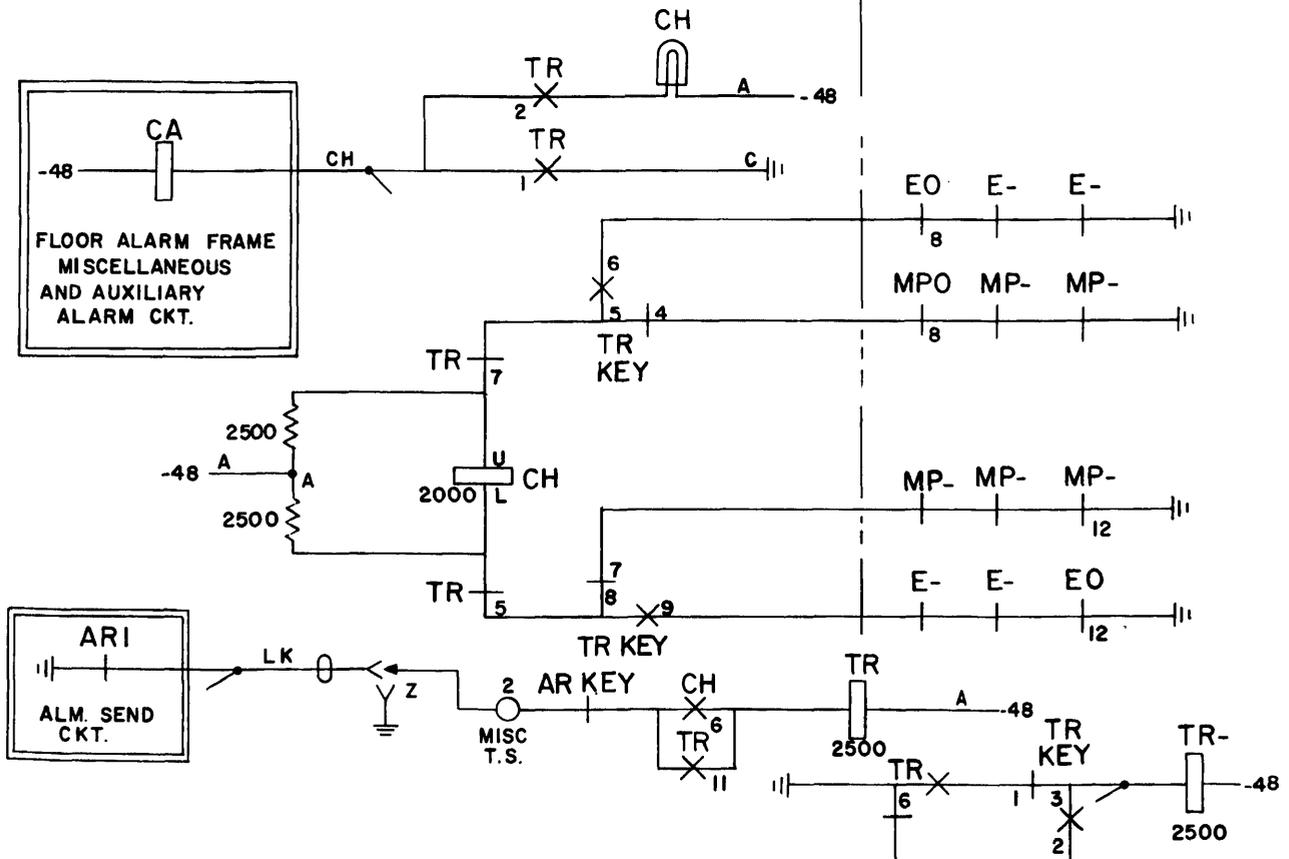

FIG. 1 EMERGENCY TRANSFER AND ALARM CIRCUIT TEST
5.11 Refer to Figure 1 and perform test operations specified in associated Table 1A.